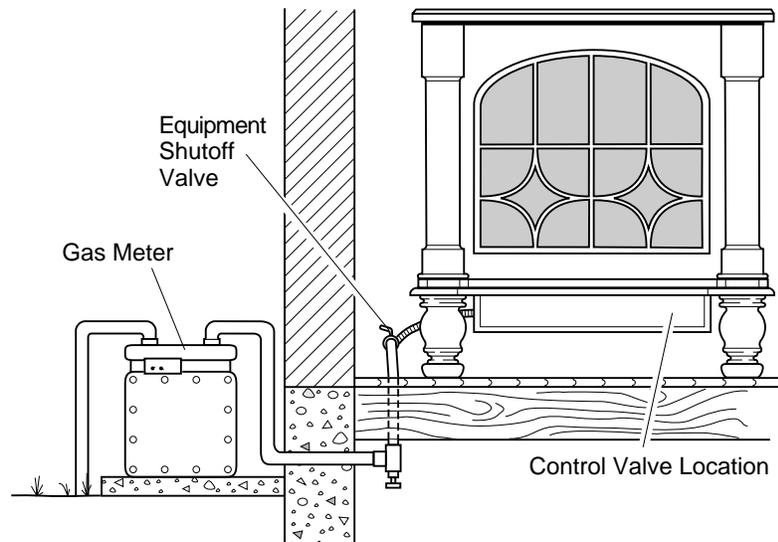

Figure 20 - Checking Gas Joints
4. Check all joints from equipment shutoff valve to control valve (see Figure 20). Apply mixture of liquid soap and water to gas joints. Bubbles forming show a leak.